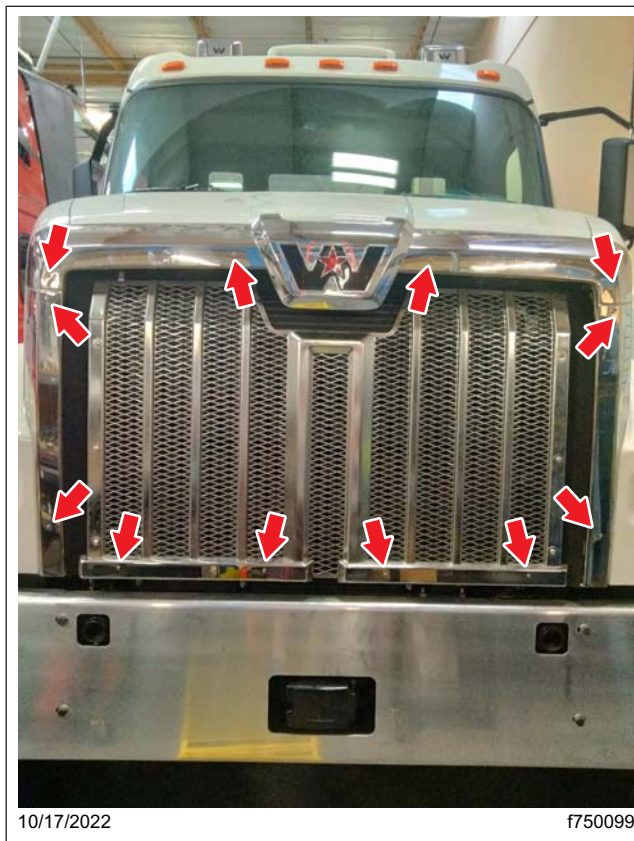

Fig. 4, Rivet Locations
11. Install the rivets into each drilled hole. **Figure 4** shows the rivets installed on the hood bezels.